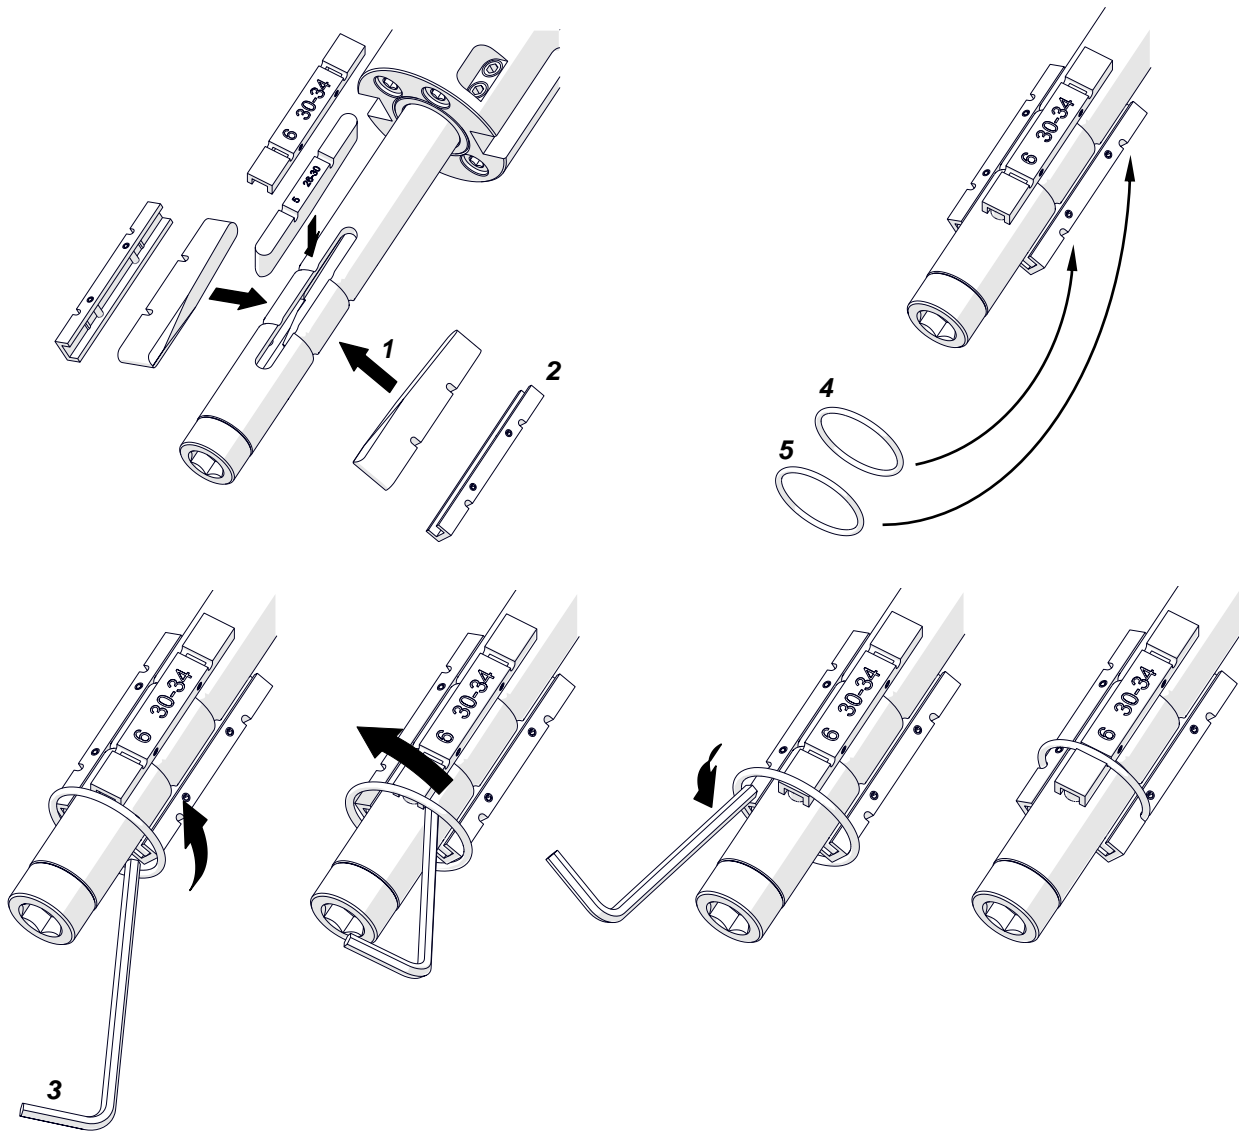

Fig. 3. Installing the jaws and the jaw blocks
Put the jaws into the mandrel holes (1, Fig. 3). Make sure that the jaws are in the holes. Put the jaw blocks (2) on the jaws. Hold the jaws/blocks and move the smallest wrench (3) spirally to put the springs (4, 5) on the jaws/blocks. Do not stretch the spring more than it is needed to install the jaws/blocks.